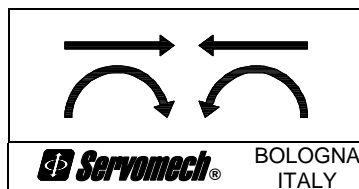

Figure 1.4: Label on external tube
- 1.3.1. Note that there is a self-sticking label on the external tube, near the housing (on Fig. 1.4, too), which helps to clarify the relationship of the input shaft rotation direction with pushrod linear movement direction.